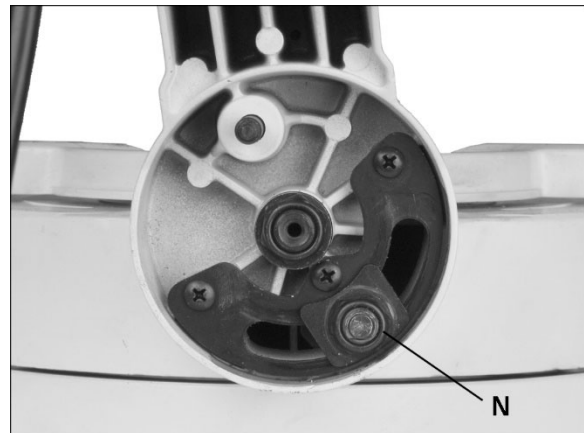

Figure 8-5
NOTE: If lock handle (A) is disengaged and bevel pin (B) has been pulled out, but cutting head still refuses to tilt, the lock nut may have been overtightened for shipping purposes. Remove three screws and open rear cover (see Figure 8-5). Slightly loosen lock nut (N, Figure 8-5) with wrench. Reinstall rear cover. This adjustment is *only if necessary*.